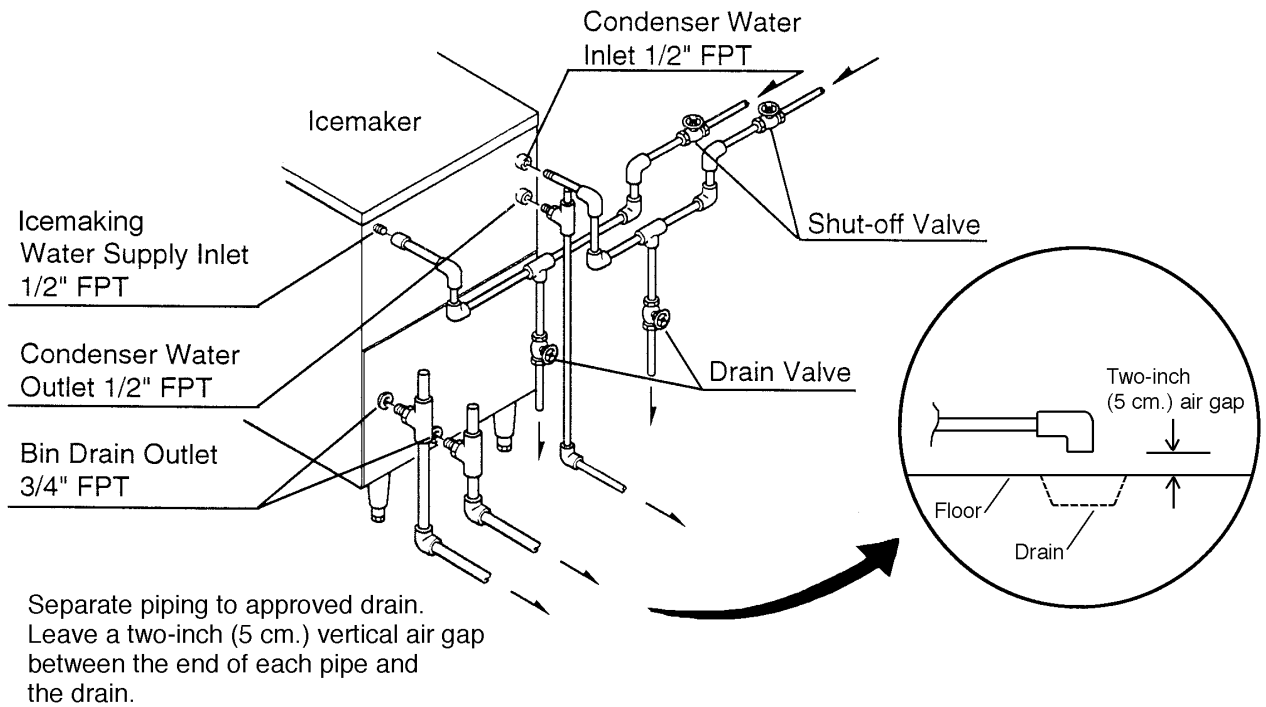

Fig. 1
See Fig. 1
- 6) Close the water-cooled condenser water supply line shut-off valve. See Fig. 1.
- 4) Close the potable water supply line shut-off valve and open the potable water supply line drain valve. See Fig. 1.